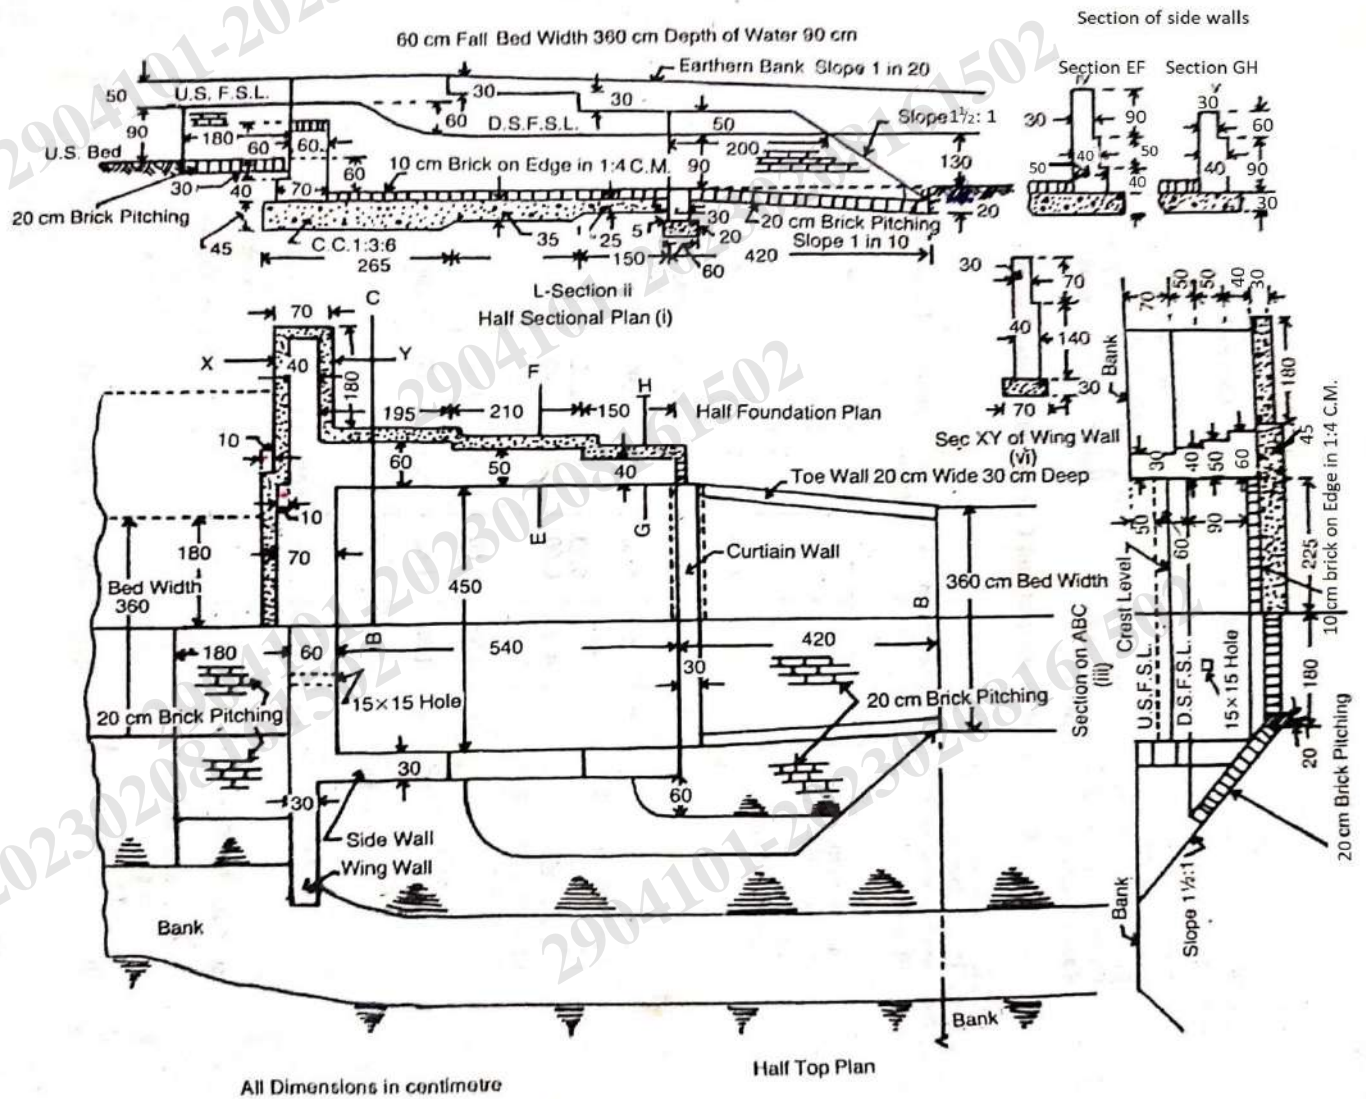

Figure 2
- d. Estimate the quantity of cement concrete work in foundation of a fall from figure 2